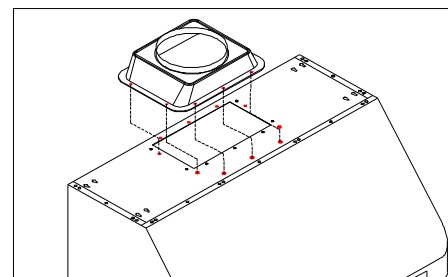

Figure 4
2. Attach ducting transition to hood exhaust with ten (3/16" x 3/8") screws (provided). Shown in Figure 4.